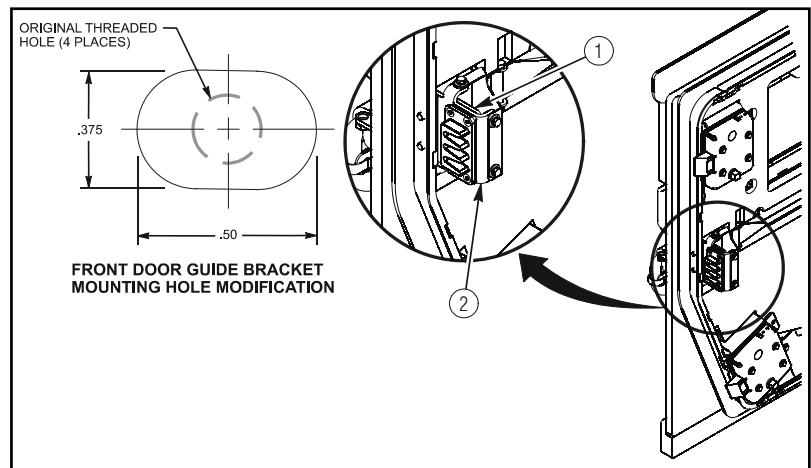

Figure 42a
- c. Enlarge four mounting holes in front door guide brackets (2) as shown in figure 42a.